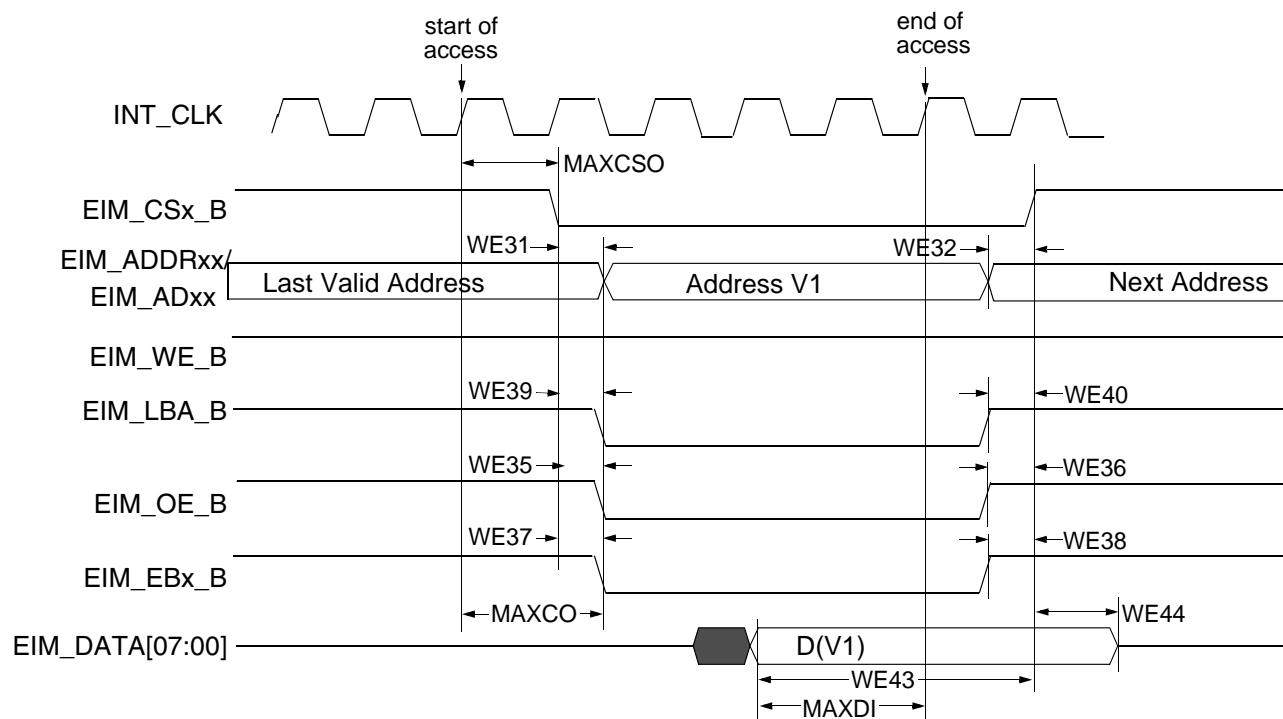

Figure 18. Asynchronous Memory Read Access (RWSC = 5)
Figure 18 through Figure 22 and Table 41 provide timing parameters relative to the chip select (CS) state for asynchronous and DTACK EIM accesses with corresponding EIM bit fields and the timing parameters mentioned above.
Asynchronous read & write access length in cycles may vary from what is shown in Figure 18 through Figure 21 as RWSC, OEN & CSN is configured differently. See the i.MX 6Dual/6Quad reference manual (IMX6DQRM) for the EIM programming model.